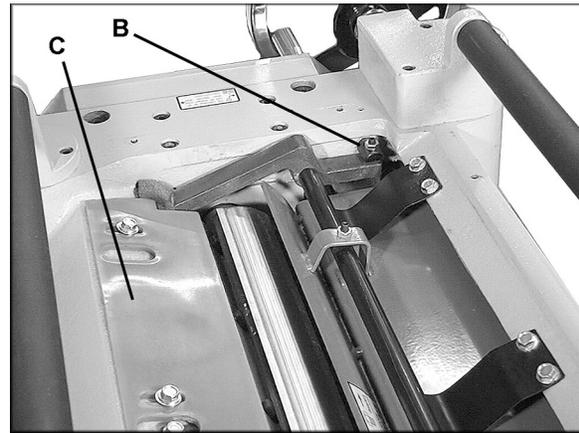

Figure 29
2. Loosen the lock nuts (B, Figure 29) on both ends of the pressure bar and turn the set screws as needed.
3. When the pressure bar contacts the top of the gauge block, tighten the lock nuts (B, Figure 29).
The chip deflector (C, Figure 29) keeps wood chips from falling into the outfeed roller. The deflector should be set approximately 1/16" from the tip of the knives. Make sure the deflector's front edge is beveled to match the shape of the cutterhead.